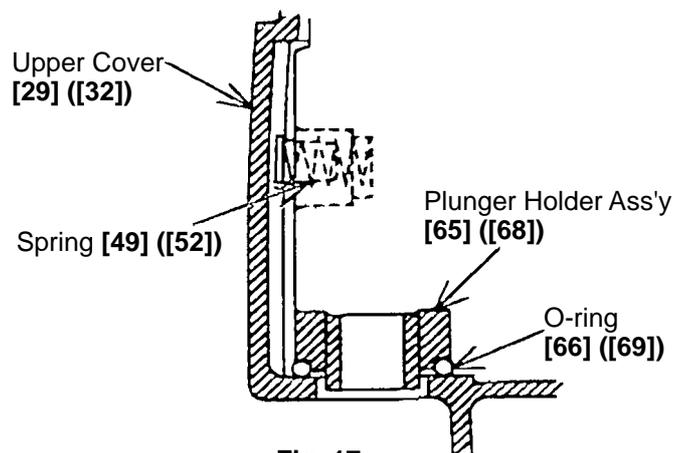

Fig. 17
(6) When installing the Plunger Holder Ass'y [65] ([68]) in the Upper Cover [29] ([32]), ensure that the O-Ring (P-16) [66] ([69]) is properly mounted at the lower portion of the Plunger Holder Ass'y [65] ([68]), as shown in Fig. 17. Also, ensure that the two Springs [49] ([52]) are properly mounted between the Plunger Holder Ass'y [65] ([68]) and the Upper Cover [29] ([32]) (Fig. 17).